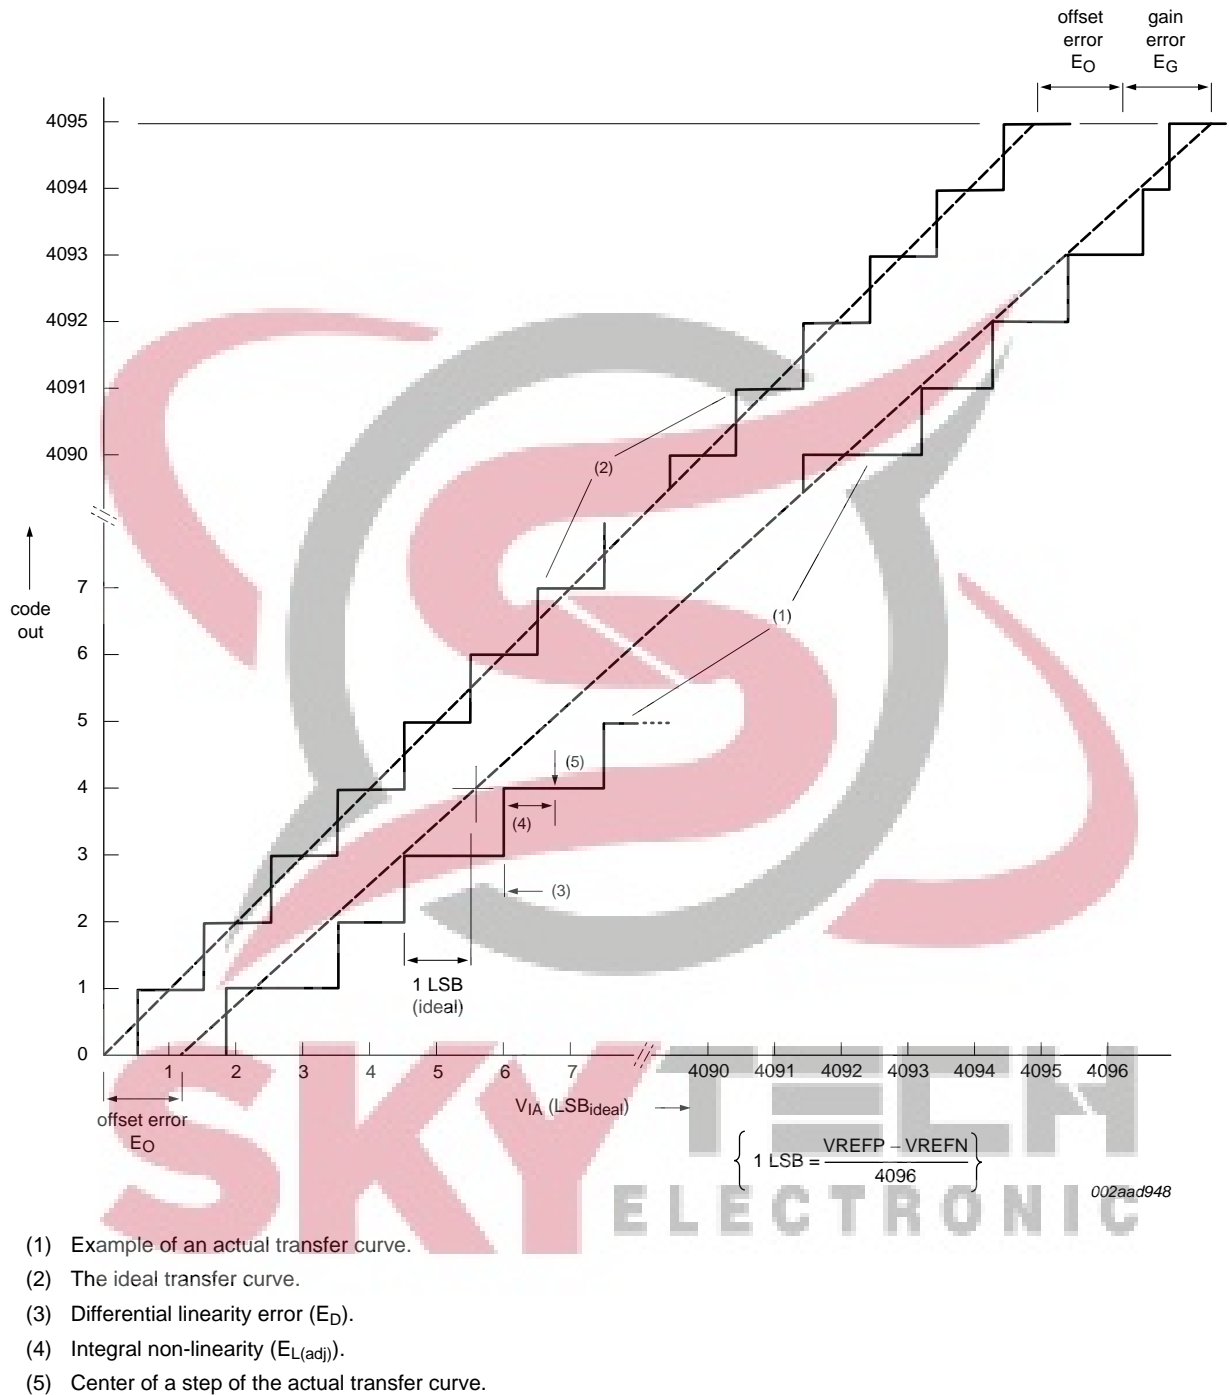

Fig 28. 12-bit ADC characteristics
- [3] The differential linearity error (E_D) is the difference between the actual step width and the ideal step width. See Figure 28.
- [4] The integral non-linearity ($E_{L(adj)}$) is the peak difference between the center of the steps of the actual and the ideal transfer curve after appropriate adjustment of gain and offset errors. See Figure 28.
- [5] The offset error (E_O) is the absolute difference between the straight line which fits the actual curve and the straight line which fits the ideal curve. See Figure 28.
- [7] The gain error (E_G) is the relative difference in percent between the straight line fitting the actual transfer curve after removing offset error, and the straight line which fits the ideal transfer curve. See Figure 28.
- [8] The absolute error (E_T) is the maximum difference between the center of the steps of the actual transfer curve of the non-calibrated ADC and the ideal transfer curve. See Figure 28.
- [6] The gain error (E_G) is the relative difference in percent between the straight line fitting the actual transfer curve after removing offset error, and the straight line which fits the ideal transfer curve. See Figure 28.